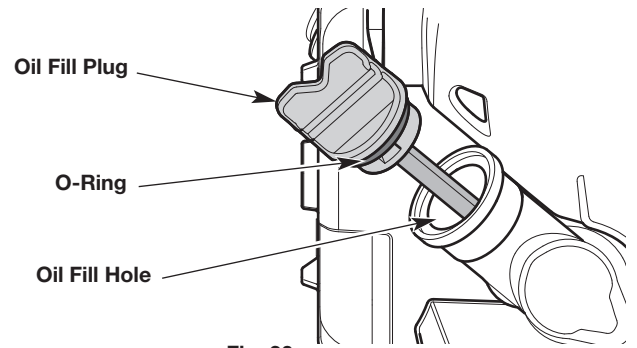

Fig. 30
3. Clean the area around the oil fill plug (Fig. 30) to prevent debris from entering the oil fill hole (Fig. 30).
9. Make sure the O-ring is in place on the oil fill plug (Fig. 30).
1. Clean the area around the oil fill plug (Fig. 30) to prevent debris from entering the oil fill hole.
7. Make sure the O-ring is in place on the oil fill plug (Fig. 30).